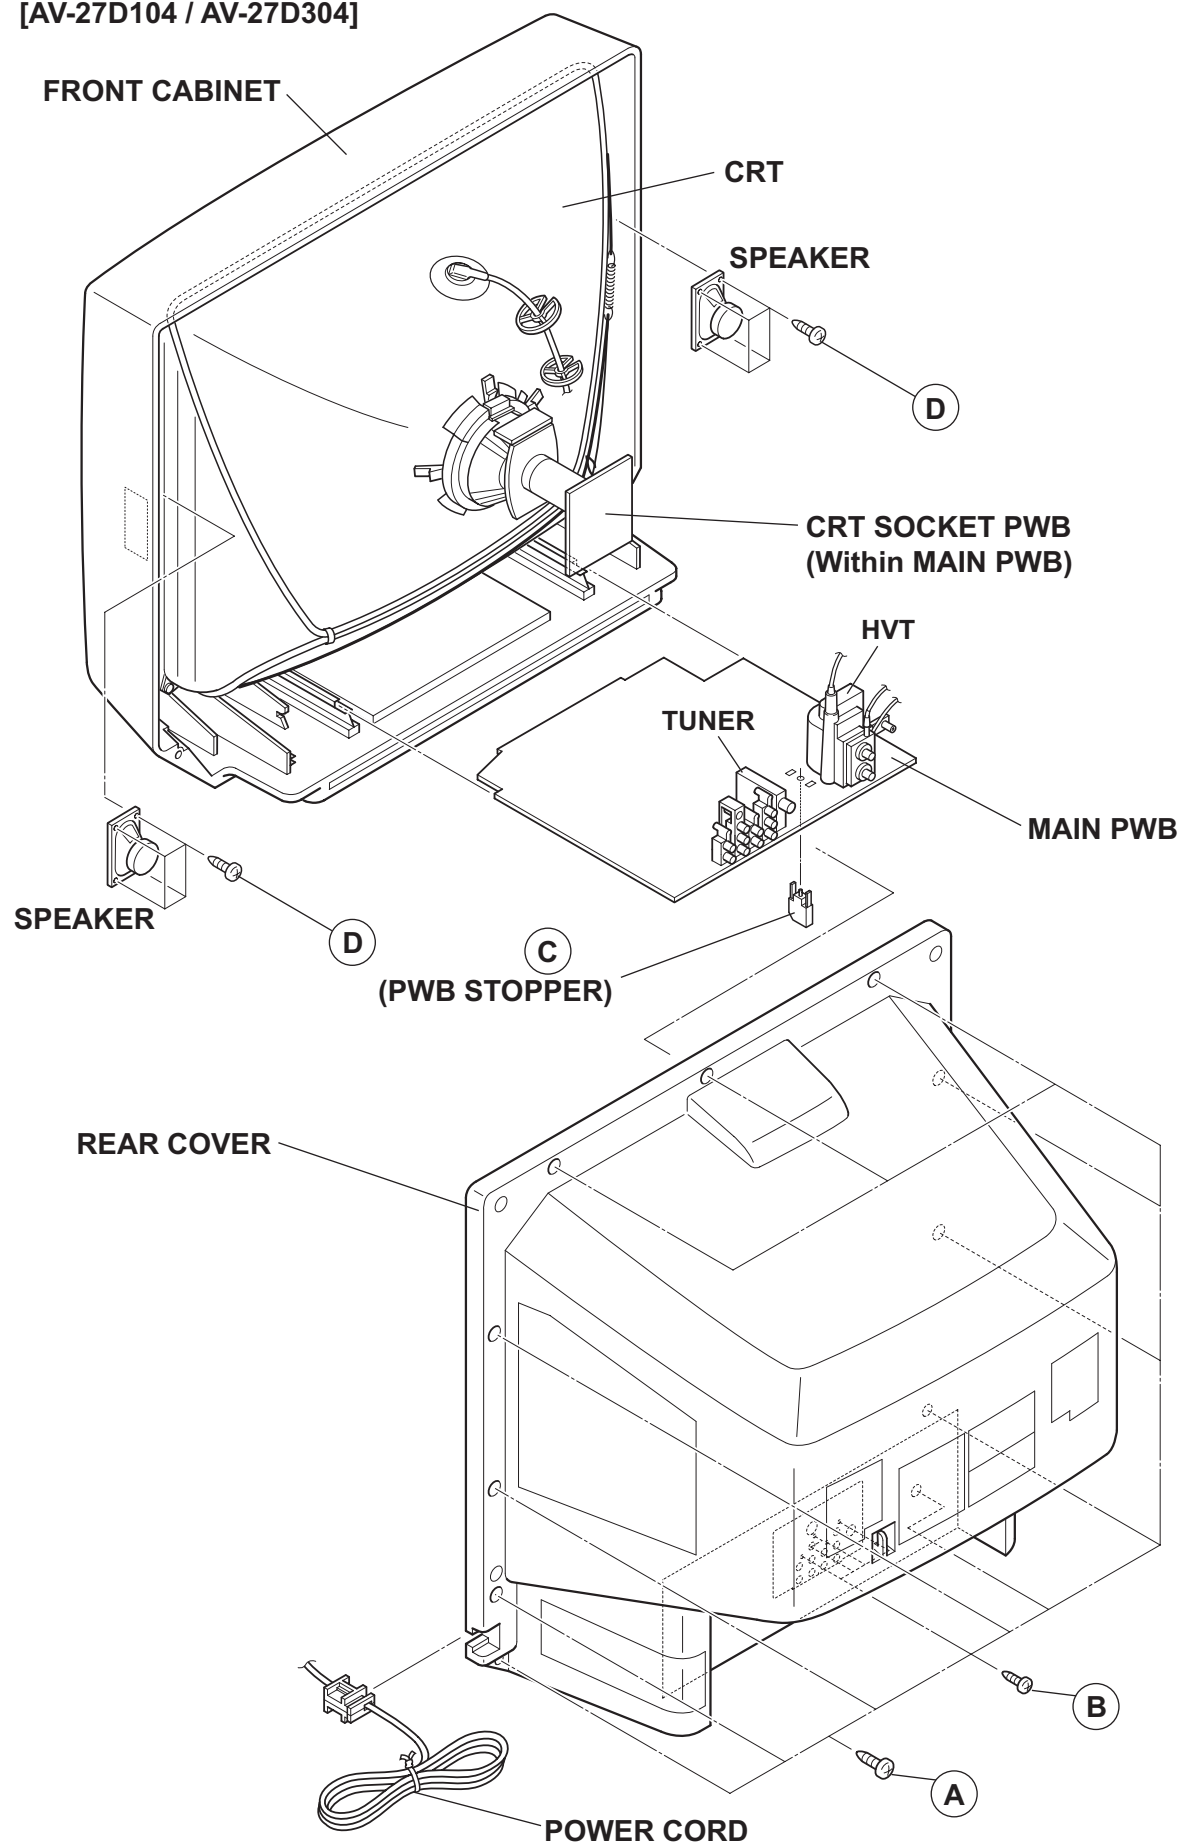

Fig.1
- (1) Unplug the power plug.
- (2) Remove the 11 screws [A] (Fig.1).
- (3) Remove the 4 screws [B] (Fig.1).
- (4) Then remove the REAR COVER toward you.
- (1) Remove the 4 screws [D], then remove the speaker (Fig.1).
- (2) Follow the same steps when remove the other hand speaker.